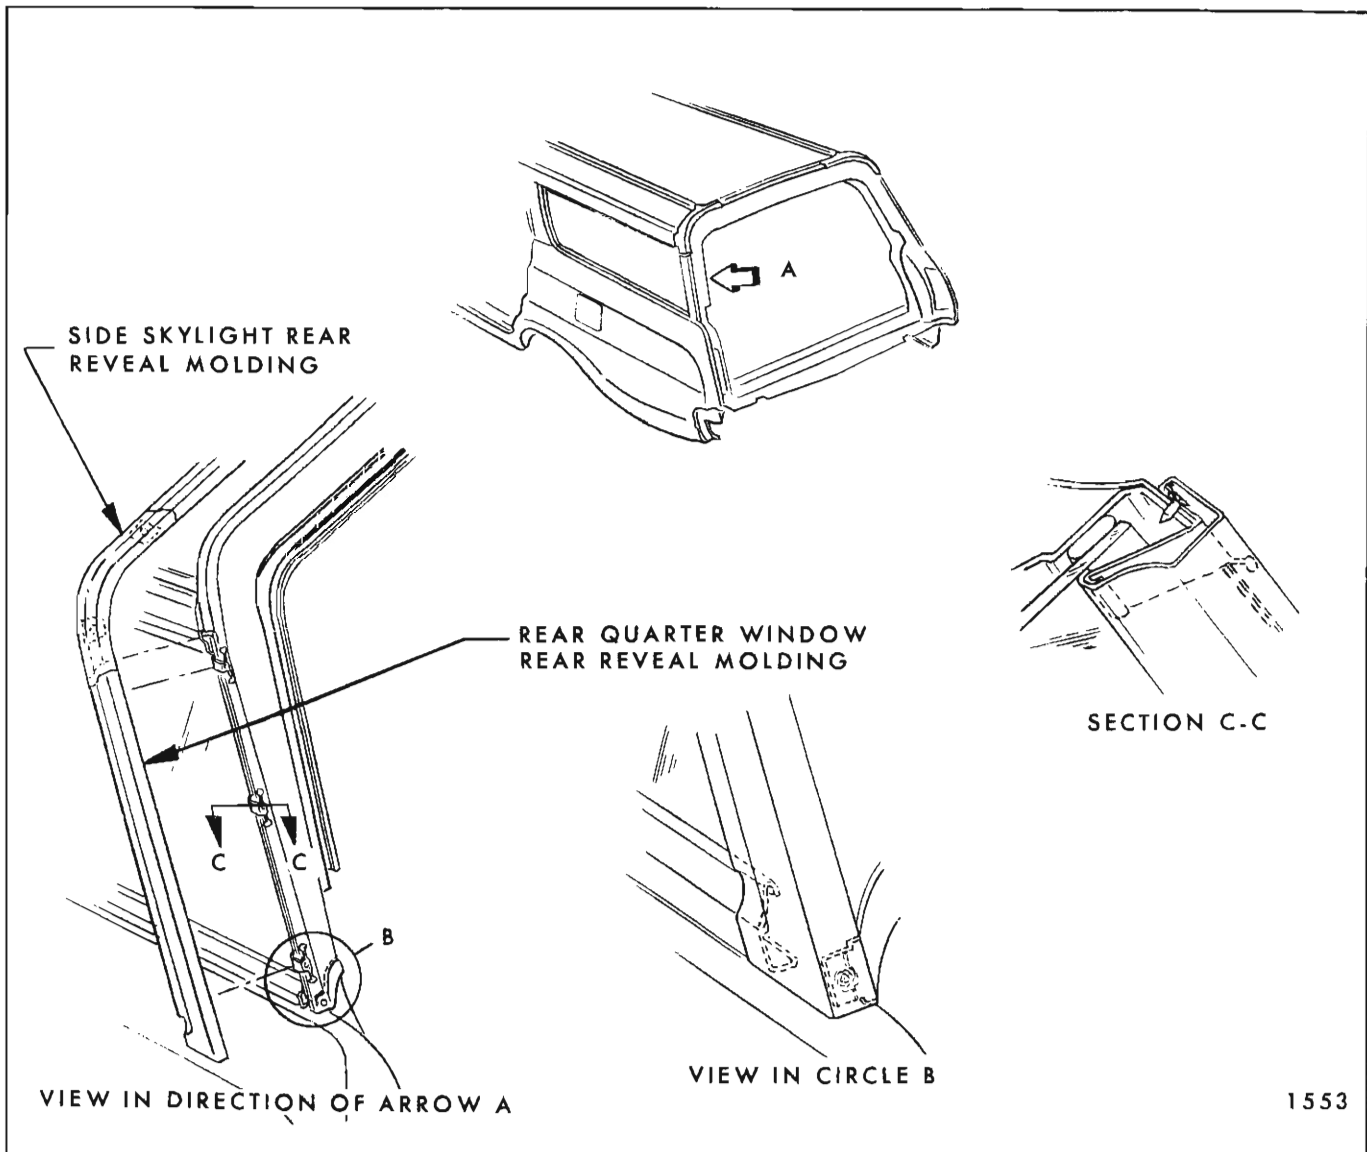

Fig. 2E23—Rear Quarter Window Rear Reveal Moulding
2. On "27" styles, and "11" styles with electrically operated windows, remove window guide upper adjusting stud ("27" styles only) and lower attaching screws (Fig. 2E24 for "11" styles, Fig. 2E25 for "27" styles) and remove guide assembly.
5. Remove regulator attaching screws (Fig. 2E24 for "11" styles, Fig. 2E25 for "27" styles) and remove regulator through access hole.